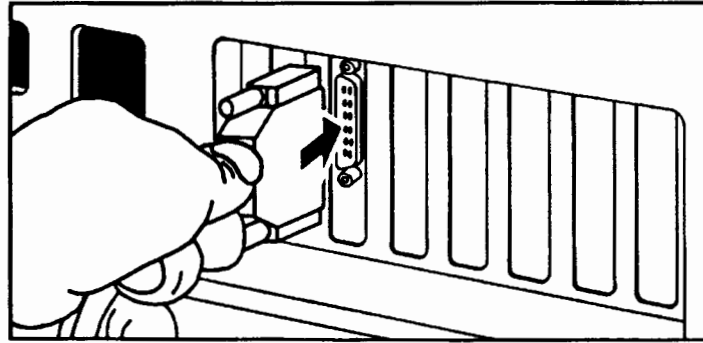

Figure 3-9. Connecting the Interface Cable to the Computer
1. Attach the smaller end of the interface cable to the connector on the scanner interface card that you installed. See figure 3-9.